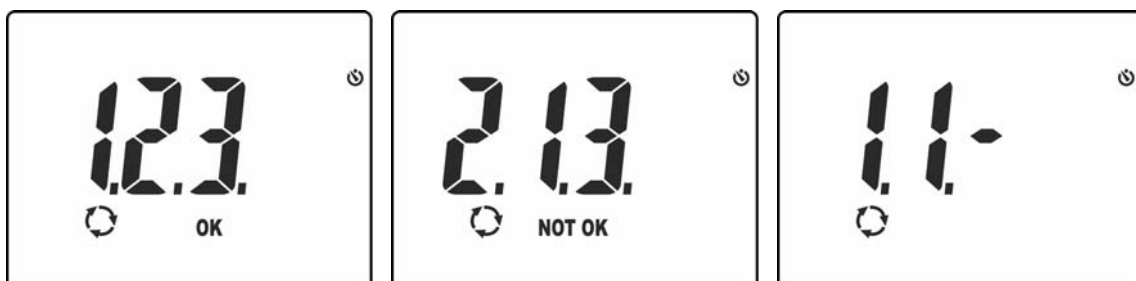

Fig. 16: Results of phase sequence and phase concordance test
- Upon detection of a stable voltage value on phase L2, the instrument automatically shows message “**1.2.3.**” (test OK) or message “**2.1.3.**” (test NOT OK) as shown in Fig. 16.
- In case it is necessary to check phase concordance between two parallel three-phase systems, after detection of phase L1 of the first system, position the lead on phase L1 of the second system. The correct final result is message “**1.1-**” (see Fig. 16 – right side)